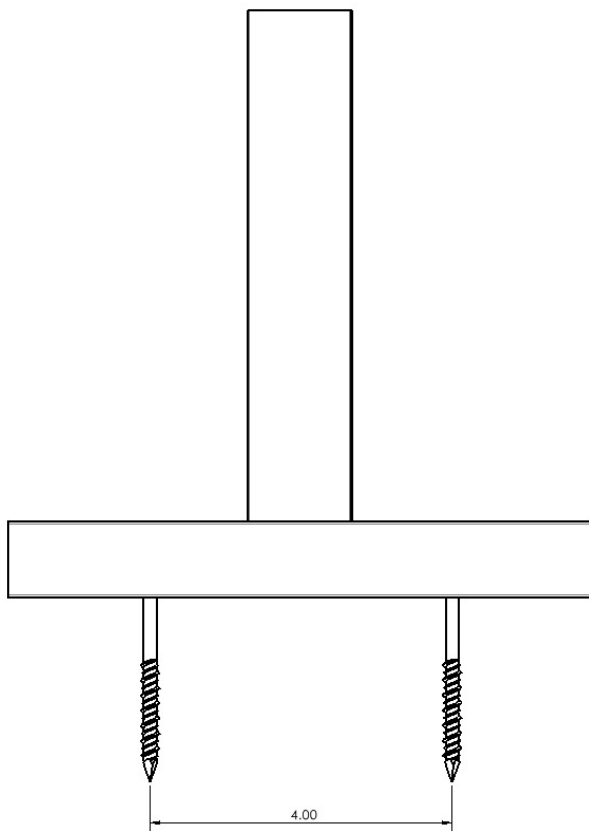

Figure 18
13. For both block frame and nail fin frames, additional anchors are needed at each T-bar location. At each T-bar location, hard block/shim as needed and once level, drill (2) ¼" diameter holes 2" from each side of the T-bar through the anchor screw groove. Pump a generous amount of Dow 795 sealant, or equivalent, through the anchor holes and install (2) additional ¼" diameter x 3" anchors. Apply and tool additional sealant over the heads of the anchor screw. (See Figures 18 and 19)